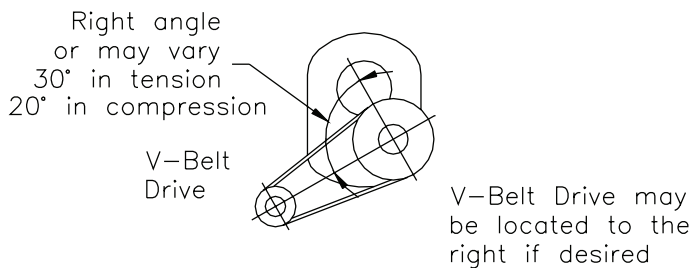

Figure 3 - Installation of Motor
- Install motor and V-belt drive so belt pull will approximately be at right angles to the center line between driven and input shaft. (See Fig. 3.) This will permit tightening the V-belt drive with the torque arm.